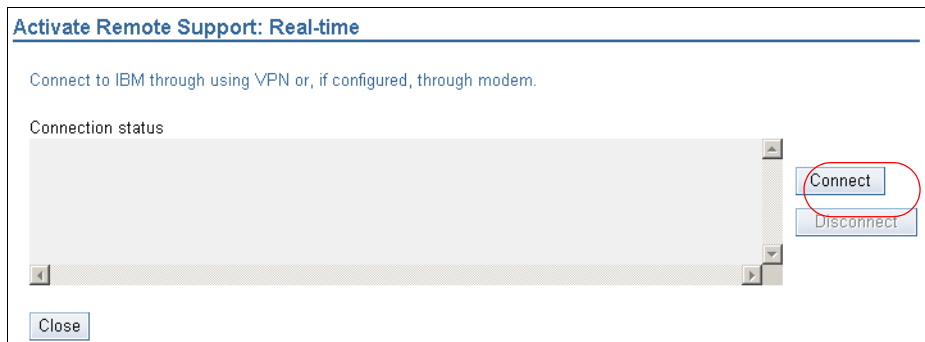

Figure 22-5 Activating remote support: Prior to Connect
- At this point, the Activate Remote Support window will open, as shown in Figure 22-5. However, nothing will happen until you click **Connect** on the right-hand side of the window.